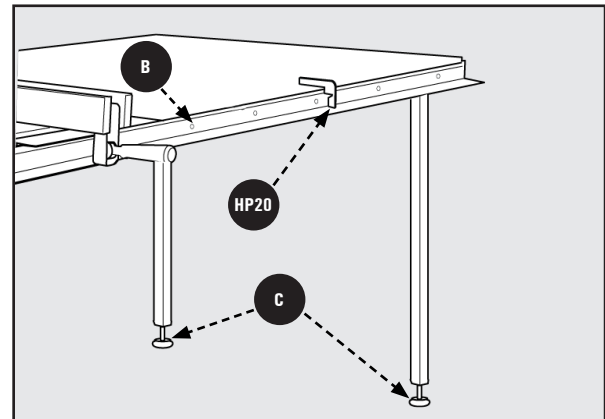

Figure 13
8. Drill 1/4 inch holes through the rail holes **A** into the wood table on the front and back rails. See Figure 13.